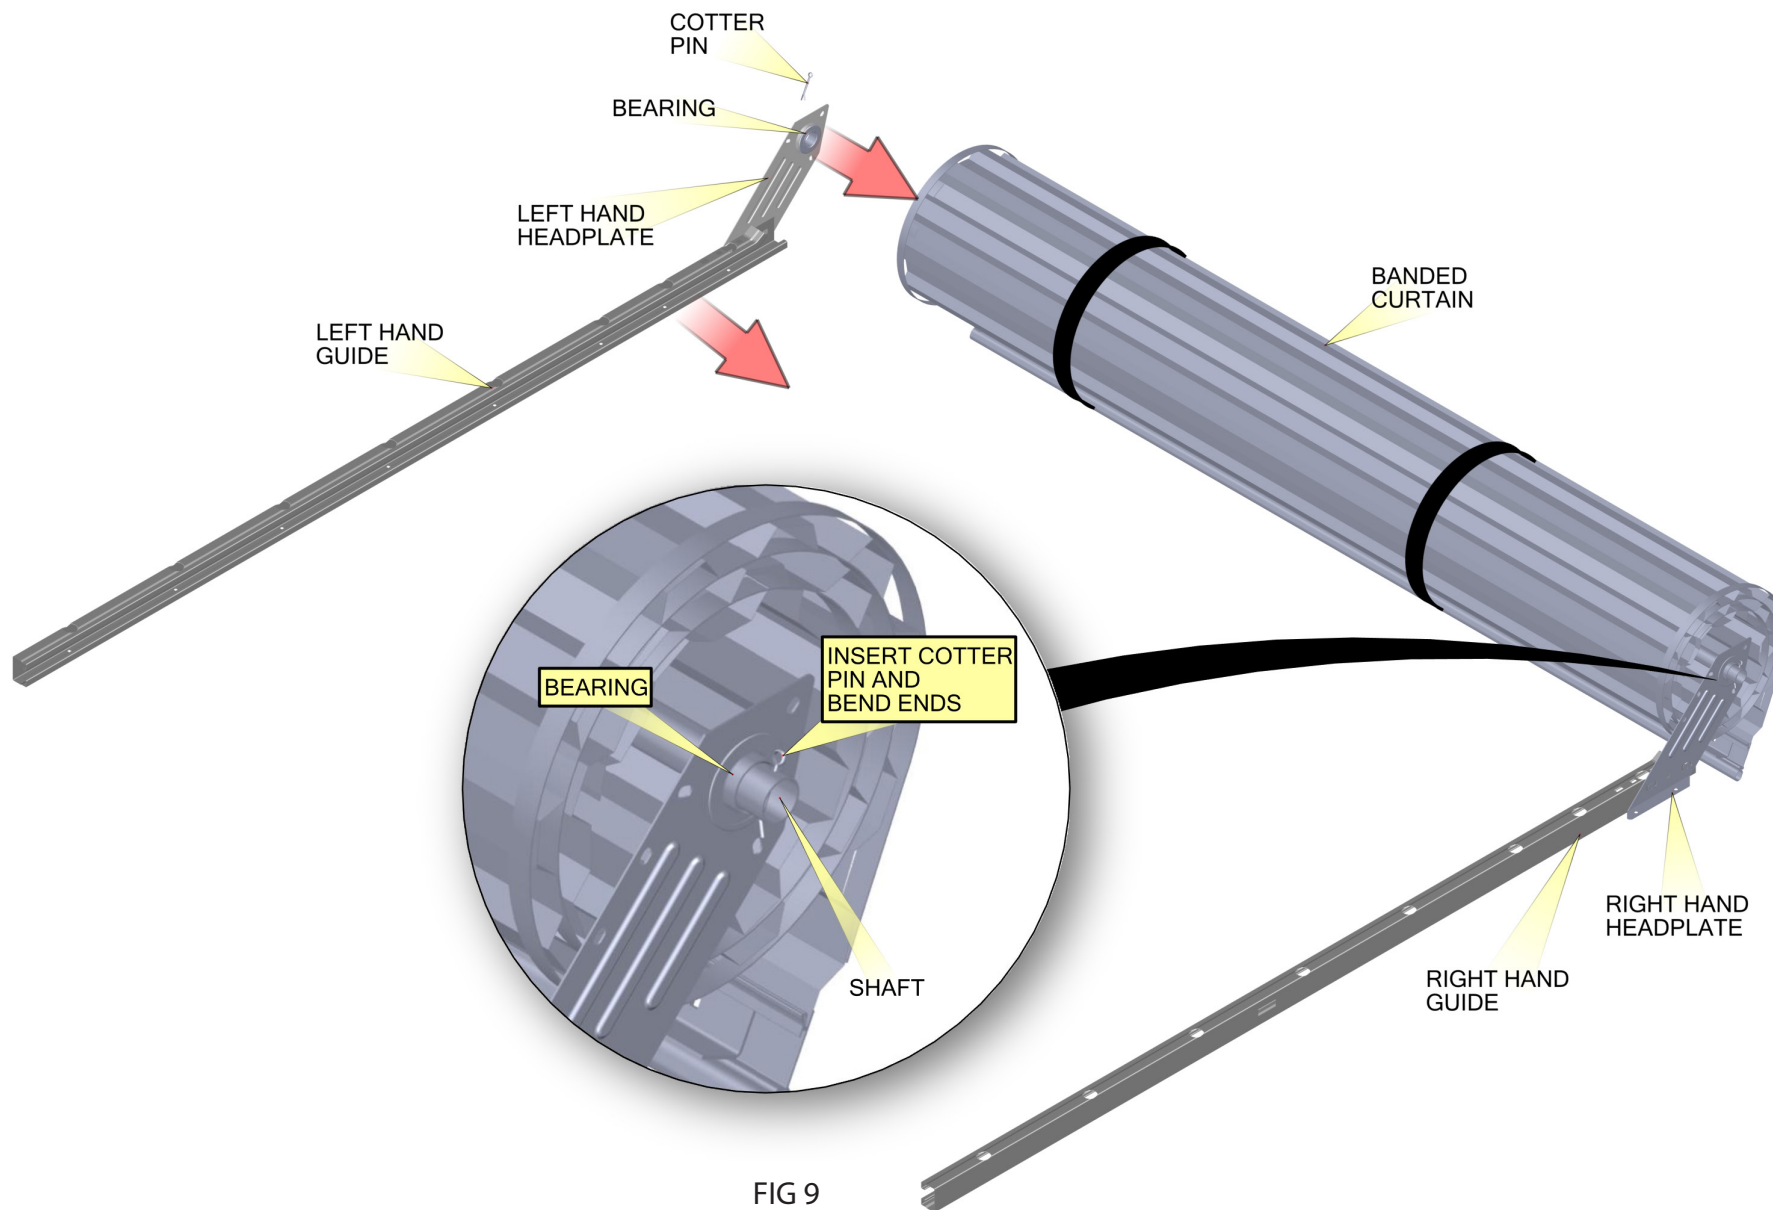

FIG 9
- Position the guide assemblies at each end of the banded curtain with the headplate near the opening. See Figure 9.
- Slip the guide and headplate assemblies onto each end of the shaft and secure with cotter pin. See Figure 9.